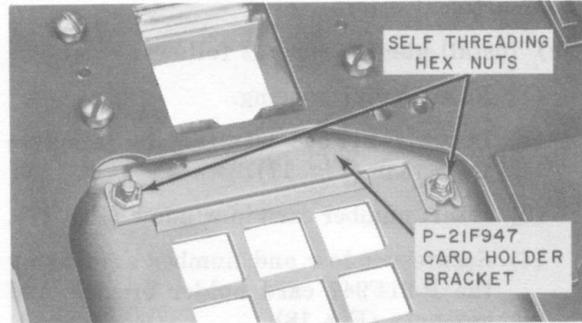

Fig. 18 — Card Holder Bracket Installed (TOUCH-TONE)
- (4) Secure window and number card using the P-21F947 card holder bracket and two hex nuts (Fig. 18).
- (5) Install dial housing.